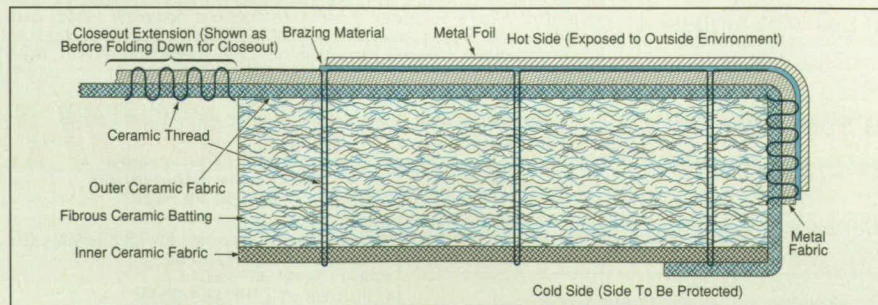

Figure 1. This Blanket Differs From Other Insulating Blankets in several respects, including notably the method of attachment of the outer metal foil.
As shown in Figure 1, a blanket of the present type includes (1) a bulk insulating layer of fibrous ceramic batting sandwiched between inner and outer ceramic fabric layers, (2) a screenlike metal fabric woven from wire, (3) an outer layer of metal foil, and (4) ceramic thread stitching. The metal fabric and foil layers are made of one or two refractory metal(s) — typically, nickel alloy(s).
Towing a launch vehicle to altitude should make it possible increase the payload and decrease the cost of the launch. No previous aerotow experiments produced tow-dynamics data of any consequence. Dryden's expertise in conducting unusual flight tests was needed to perform simulations of the dynamics (see Figure 1), determine a safe flight-test approach, and conduct the aerotow flight tests.
Figure 1. Eigenvalues of Oscillations of the Tow System in short-period, phugoid, and "bungee" (simple longitudinal) modes were identified, and a flight envelope for stable towing of the QF-106A behind the C-141A was predicted on the basis of computational simulations of the dynamics.